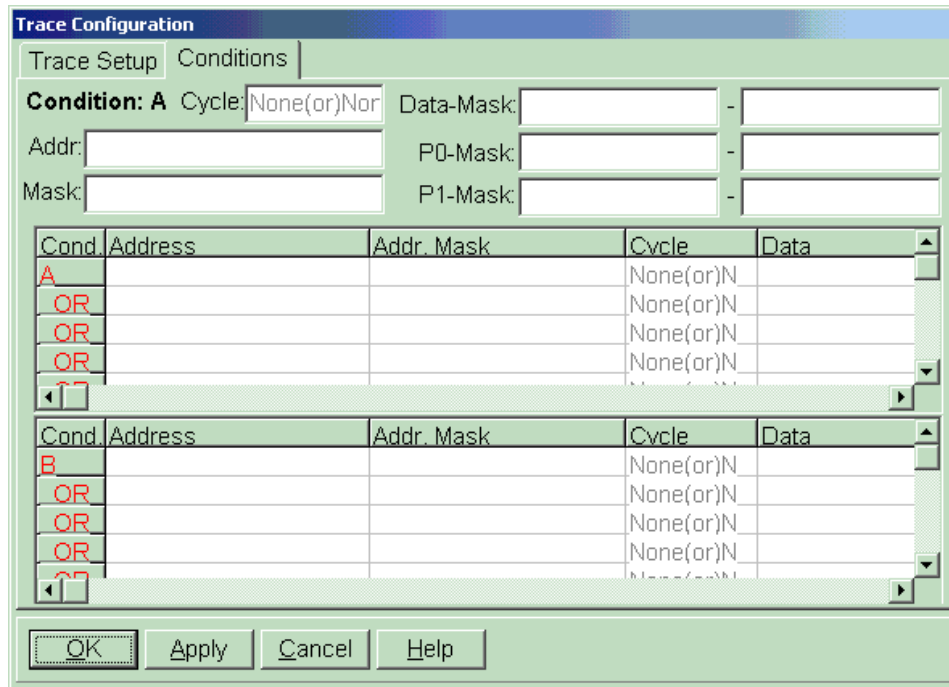

Figure 55. Standard Trace Configuration Dialog Box (Conditions Tab)
7. Click **OK** in the Trace Configuration window (Figure 55).